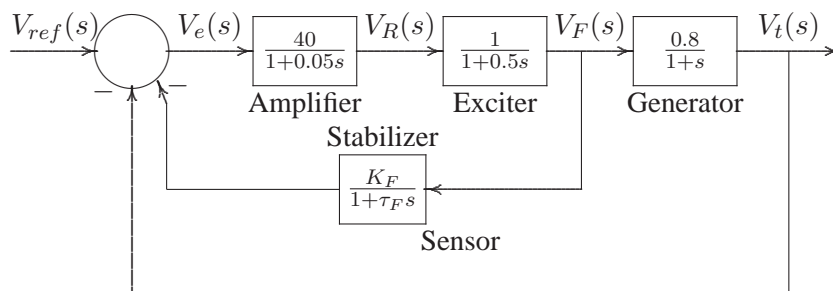

FIGURE 100
12.10. A rate feedback stabilizer is added to the AVR system of Problem 12.9 as shown in Figure 100. The stabilizer time constant is $\tau_F = 0.04$ second, and the derivative gain is adjusted to $K_F = 0.1$.
(b) Construct a *SIMULINK* block diagram model for Figure 100, and simulate to obtain the response (**sim12p10.mdl**).